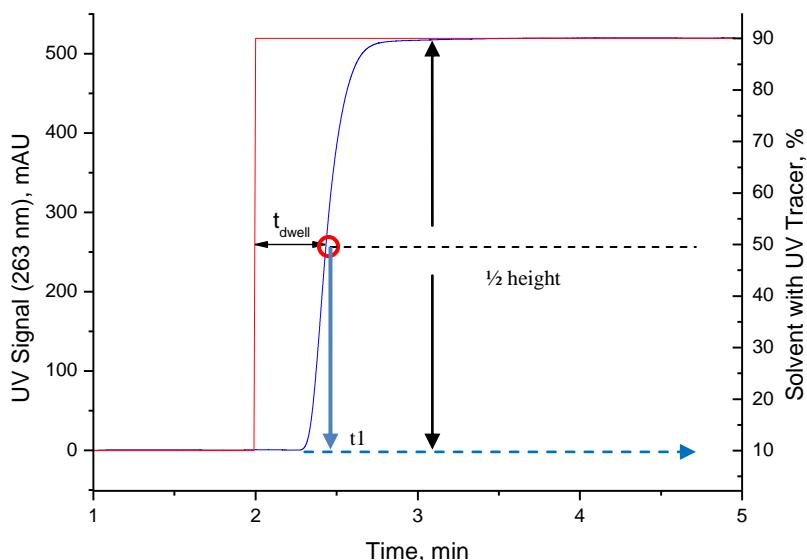

figure 2 - Example of dwell volume measurement by step boundary using 1% acetone as UV tracer
- Determine the actual elution time of acetone, **t1**, at half of UV-signal height (blue curve in figure 2).
- Calculate a dwell time, **t-dwell**, as a difference between the programmed (red curve in figure 2) and **t1**. **t-dwell = t1 - 2**